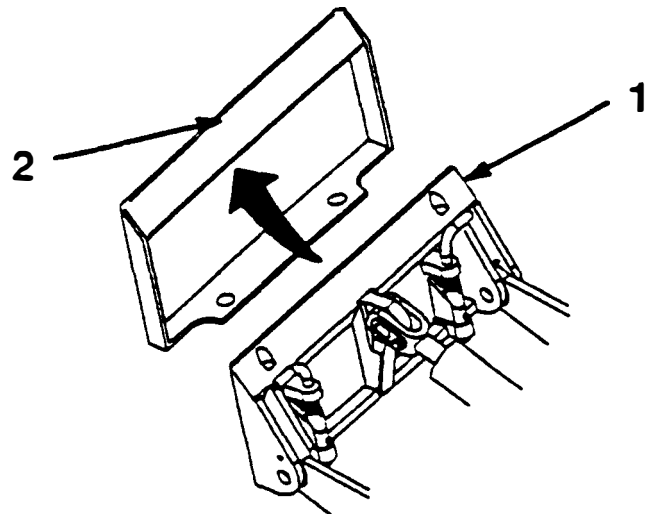

FIG. 1
3. Drive forward, position the mount plate into the upper lip of the receiver plate. (FIG.1)